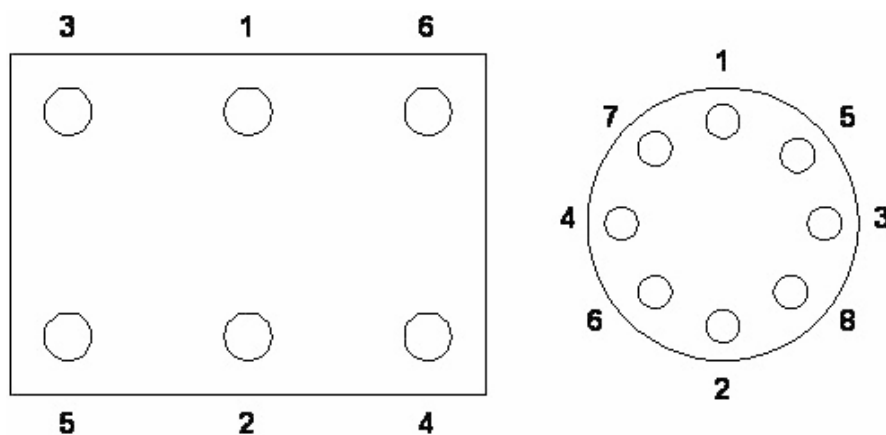

Figure 1
- It is essential to check that all bolts, in a multi-hole fixing, carry their allotted proportion of the load. Unless otherwise specified, they shall first be tightened in a staggered pattern from the centre outwards and subsequently re-tightened in the same sequence. This second tightening is necessary since bolts may lose tension when adjacent bolts are tightened (see Figure 1).